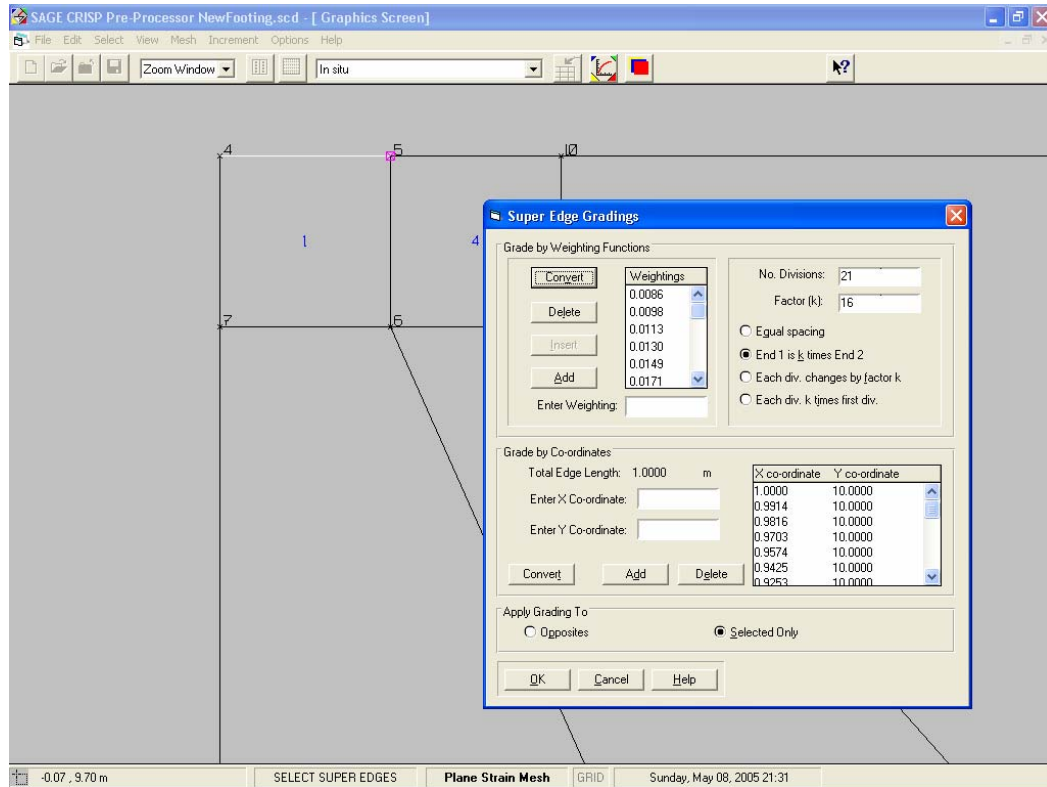

Figure 10 Defining Edge Gradings for the Top Left-Hand Edge which will form the footing
- Step 3** Enter '21' into the **Number of Divisions** text box and click on the **End 1 is k times End 2** option. Enter '16' into the **Factor (k)** text box. Weighting values will be automatically entered and the dialogue box should now look like Figure 10.